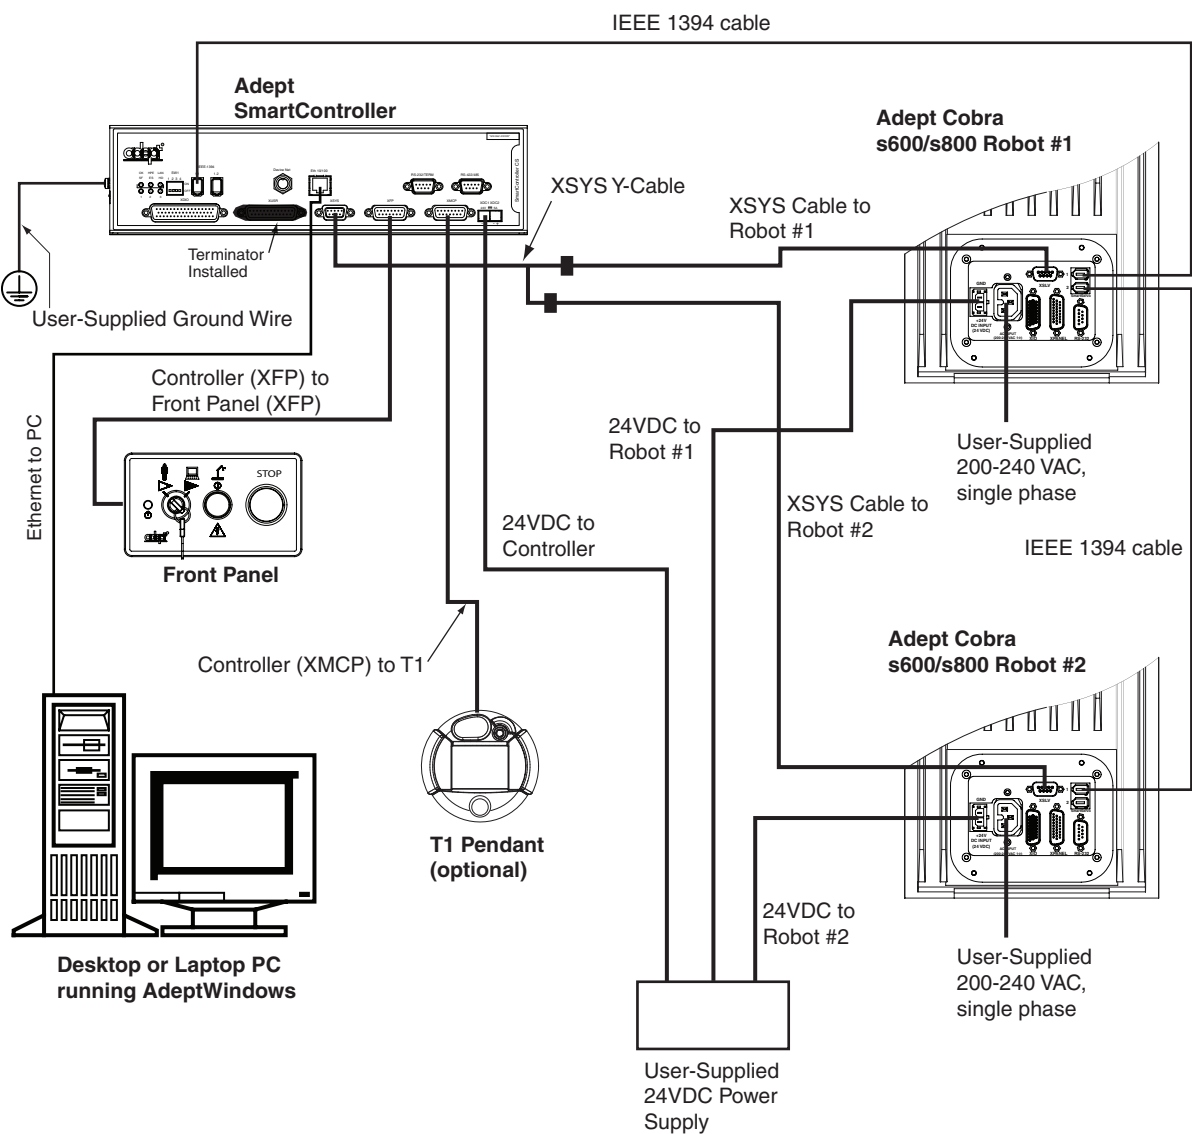

Figure 11-1. Dual Robot System Cable Diagram
Mount the robots according to the instructions in Chapter 3. Install the system cables as shown in Figure 11-1. Refer to Chapter 4 for details on 24 VDC power, AC power, and grounding.
1. Install the robots and controller as per the diagram in **Figure 11-1 on page 133**.